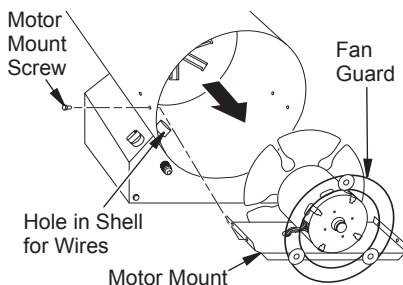

Figure 6 - Removing Motor, Motor Mount, and Fan Guard from Heater
5. Remove screws holding motor mount to shell. Use nut-driver (see Figure 6).